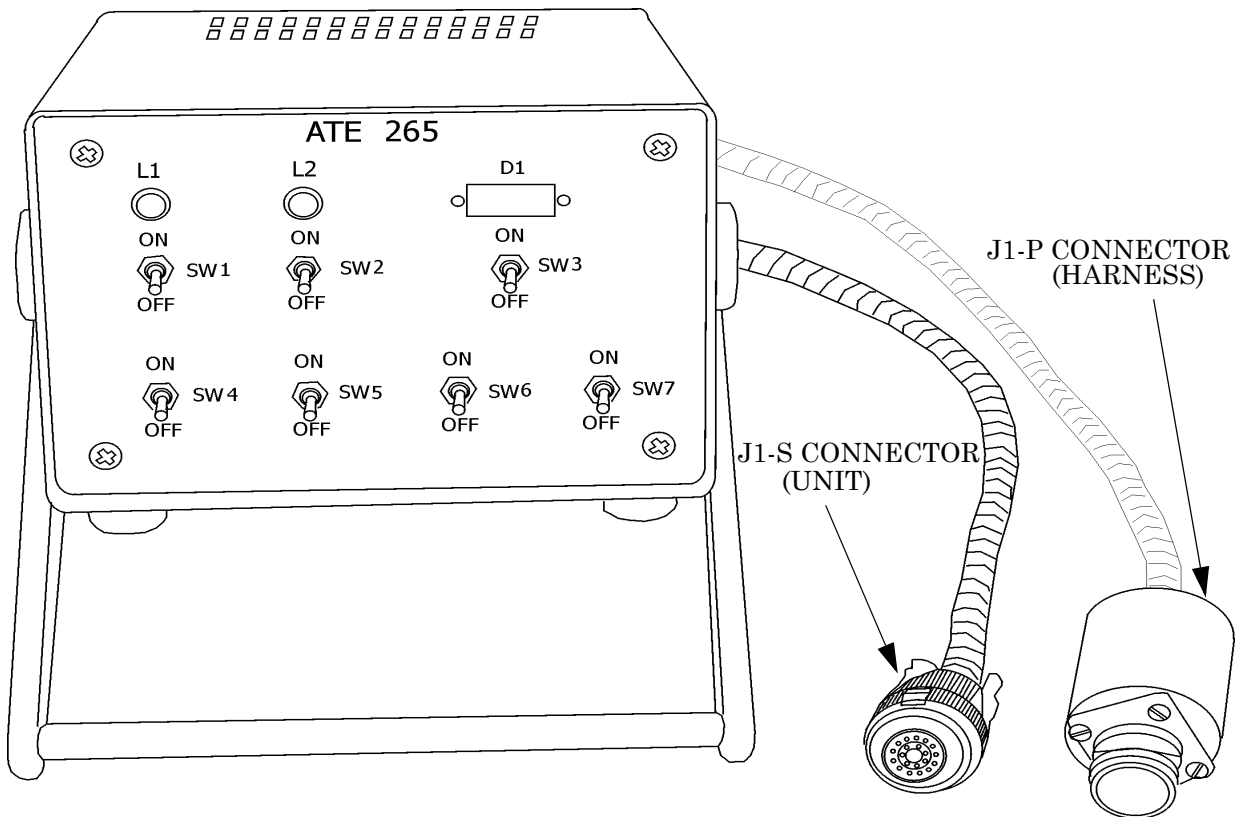

Fig. 205 - Indicating System (ate 265 Test Set) - Adjustment Test
- (7) Do a Fuel Indicating Functional Test.
- (8) Install the Mirror Laminate located on the 6000 insulation bulkhead in the vanity closet.
9. Indicating System - Adjustment / Test (Ref. Fig. 205)
- (2) Remove the electrical power (Refer to 24-00-00).
- (3) Put a Warning Notice in the flight compartment to tell persons not to apply electrical power.
- (4) Ground the airplane (Refer to 12-24-00).
- (5) Defuel the airplane (Refer to 12-00-00).
- (6) Drain the LH and RH fuel collector tanks (Refer to 28-11-00).
- (7) Add 12.4 lbs. of unusable fuel in each collector tank (24.8 lbs. total LH and RH).
- (8) Lift the airplane on jacks until the wheels are clear of the ground (Refer to 07-00-00).
- (9) Make the airplane level (Refer to 08-20-00).
- (10) Remove the Mirror Laminate located on the 6000 pressurization bulkhead in the vanity closet.
- (11) Remove the covers of the trim adjusters on the fuel quantity indications. Let the fuel quantity indications stay for 10 minutes, to become stable, before the test.
- (12) Connect the ATE 265 unit and related wire harness (Ref. Fig 205).
- (13) In the flight compartment, on the MASTER SWITCHES panel, set the battery switch to BAT. Make sure the 28 Vdc is available (Refer to 24-00-00).
- (14) On the SYS TEST panel, set the switch to FUEL QTY and push and release the center button.
- (15) On the MFD check that the digital indications show 8888 and then 0000.
- (16) On the annunciator panel the L LOW FUEL and the R LOW FUEL annunciators stay ON.
- (17) Calibrate the LH and RH fuel parameter interface (P/N 19XG22A1888) in order to set the zero fuel quantity reading on the Digital Display.